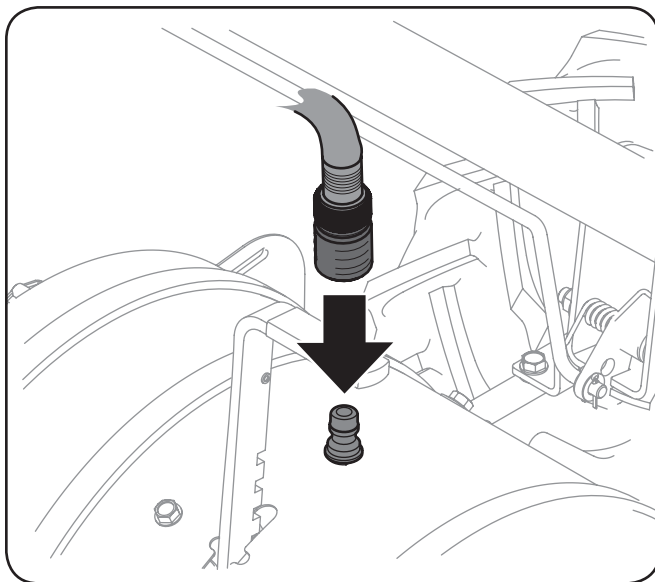

Figure 6-1
3. Attach the hose coupler to the water port on the top of your tine shield. See Figure 6-1.